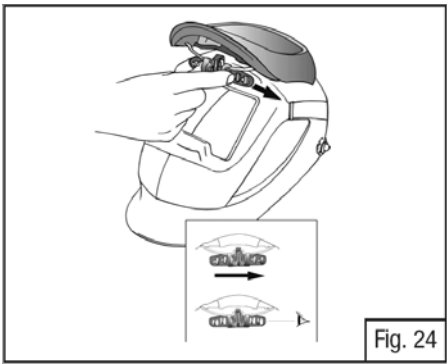

Fig. 24
- Place the lens assembly on top of the helmet. Align the four oval slots on the spring assembly with the four knobs on the middle helmet panel (Fig 24). Recheck the alignment prior to sliding the spring assembly to your right. If properly aligned, the assembly will snap securely onto the middle helmet panel.